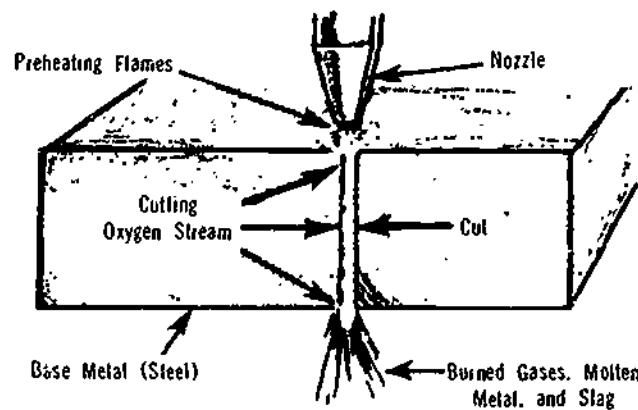

Figure 18-20. Flame-Cutting
a) Flame-cutting is accomplished by rapid oxidation of combustion of heated steel when a jet of pure oxygen from a cutting torch is directed against it. The steel is cut by first heating a small area to the kindling temperature by the pre-heating flames, then directing a jet of oxygen against the pre-heated area, as illustrated in Figure 18-20.